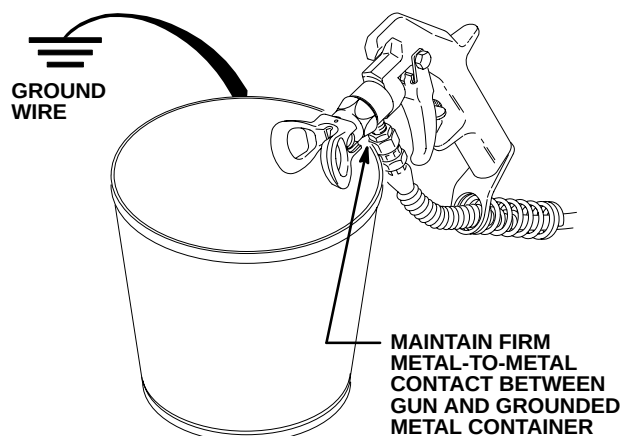

Fig 3
- Hold a metal part of the gun firmly against a grounded metal pail. See Fig 3. Squeeze the trigger, turn the ON/OFF switch to ON, and slowly increase the pressure until the sprayer starts. Keep the gun triggered until all air is forced out of the system and the paint flows freely from the gun. Release the trigger and engage the safety latch.